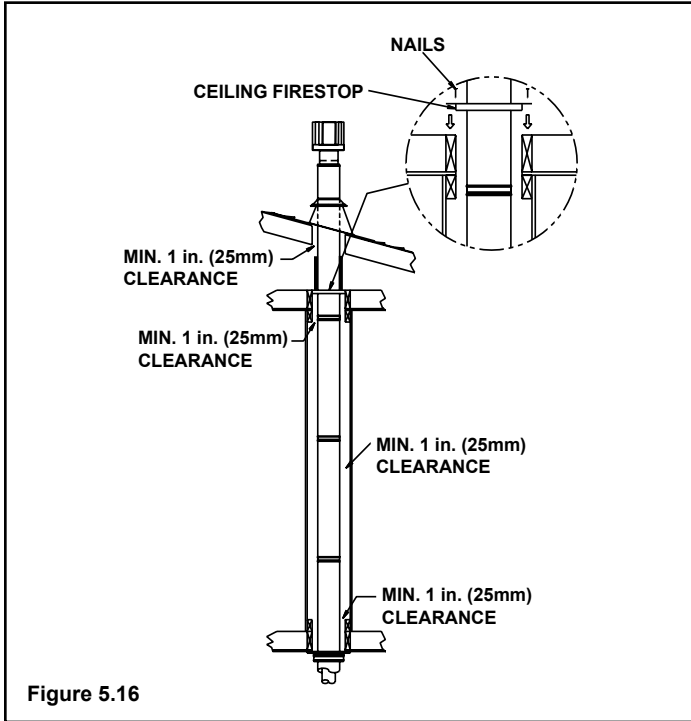

Figure 5.16
Check the installation instructions for required 1 in. (25mm) clearances (air space) to combustibles when passing through ceilings, walls, roofs, enclosures, attic rafters, or other nearby combustible surfaces. See page 17, **Figure 5.16**. Check the instructions below for maximum vertical rise of the venting system, and any maximum horizontal offset limitations. All offsets must fall within the set parameters of the vent graph (**Figure 5.2**) located on page 11.
**Note:** For multi-story vertical installations, a ceiling firestop is required at the second floor, and any subsequent floors (**Figure 5.16**). The opening should be framed to 10 in. x 10 in. (254mm x 254mm) inside dimensions, in the same manner as shown in **Figure 5.13**, on page 16.